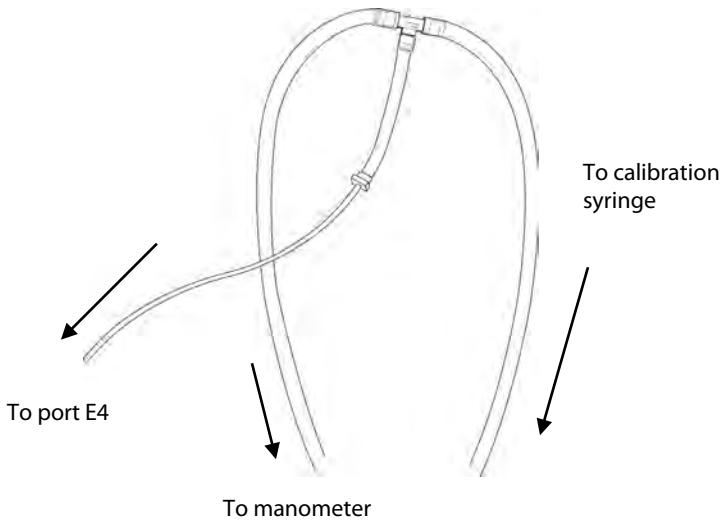

Figure 7.11
3. With NOTHING attached to the port, press the Zero (0) calibration button on the touch screen.
4. Attach the calibration assembly shown in Figure 7.11 to port E4 on the gas delivery engine.